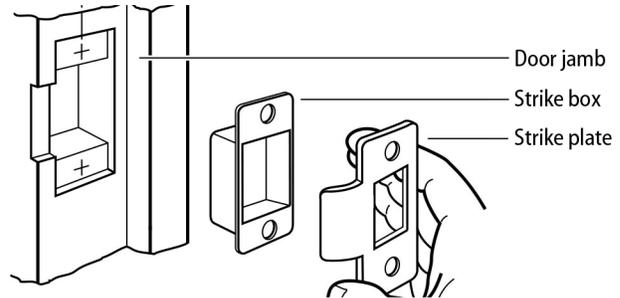

Figure 7 — Installing the strike
- Insert the strike box and secure the strike with screws provided as shown in Figure 7.